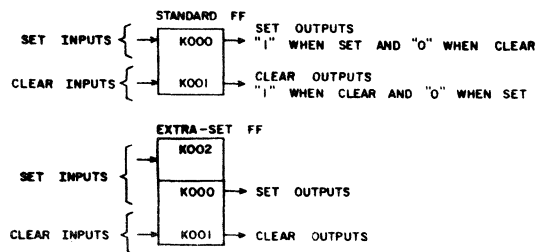
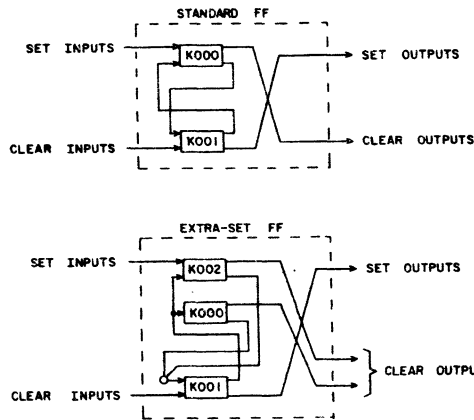

Figure 3. Flip-Flop Symbols
Figure 4. Internal Inverter Connections for a Flip-Flop
The flip-flop (FF) is a storage device with two stable states - designated as Set and Clear - and is composed of two or more inverters. The logic symbols (Figure 3) are formed by the combination of inverter symbols. By convention, Set inputs and outputs are shown in the upper part of the symbol and Clear inputs and outputs are shown in the lower part of the symbol.
Figure 4 illustrates the interconnection of inverter symbols to form a flip-flop symbol. The term numbers assigned to each flip-flop are the term numbers of the internal inverters as seen by comparing the terms in Figure 3 with those in Figure 4. Notice that the Set output is the output of inverter K001, and the Clear output is the output of inverters K000 and K002.